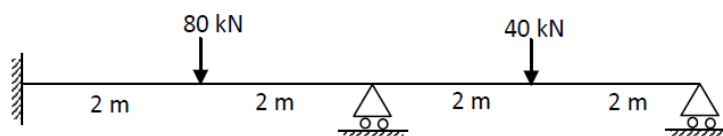

Figure 4.4
4. Analyze the continuous beam shown in figure 4.4, if the downward settlement of supports B and C are 10 mm and 5mm respectively. Take $EI=184 \times 10^{11} \text{ Nmm}^2$. Use flexibility matrix method.